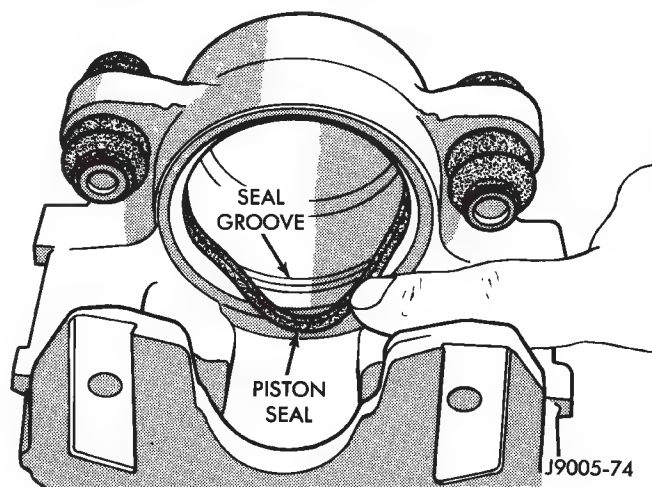

Fig. 21 Installing Piston Seal
(4) Install new piston seal in caliper bore. Press seal into seal groove with finger (Fig. 21).